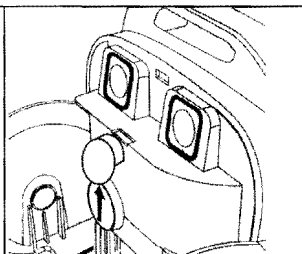

Fig. 20
- o Remove the blowing function cap (c). Fig. 20.